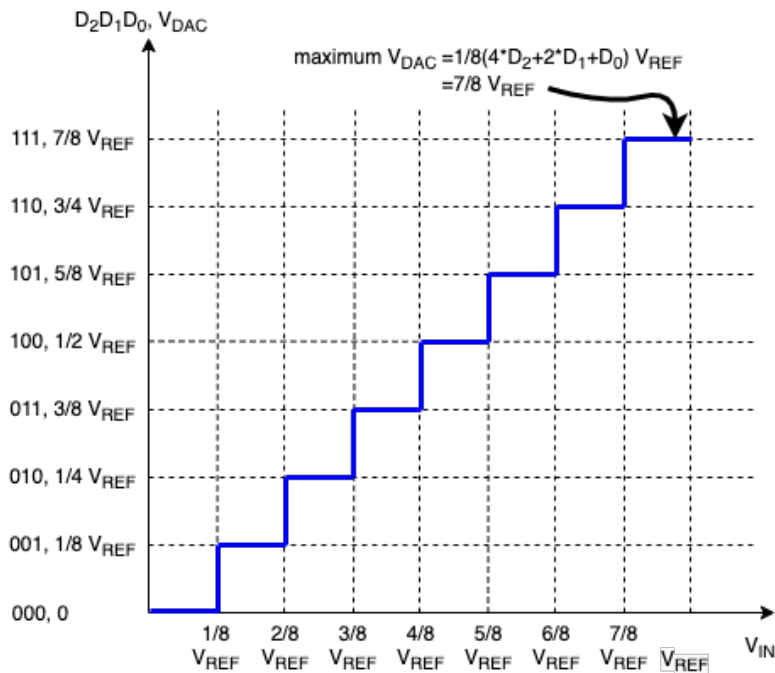

Figure 4: Voltage transfer curve of 3-bit SAR ADC
Before moving to the 4-bit ADC that will be implemented in the lab, let’s take a look at a 3-bit SAR ADC as an example. The voltage transfer curve of the 3-bit SAR ADC is shown in Figure 4, where  $D_2D_1D_0$  is the output digital code of the ADC. Notice that the maximum voltage of the  $V_{DAC}$  is  $\frac{2^N-1}{2^N}V_{REF}$  where  $N$  is the number of bits ( $N=3$  in this case.) The Least Significant Bit (LSB) of the ADC can then be derived as  $\frac{1}{2^N}V_{REF}$ . For  $V_{IN} = 0.3V_{REF}$ , the operation of the SAR ADC algorithm is shown in Figure 5. The corresponding DAC code and comparator output in each cycle are also denoted in the timing diagram. **Note:** In this lab, the waveforms are different from those in Homework 2. That is because in the homework, we switch the current bit to the correct code (0 or 1, based on the output of the comparator) at the same time as we switch the next bit to the trial code (1). But in the lab, we switch the current bit to the correct code first and then switch the trial code after half a cycle.